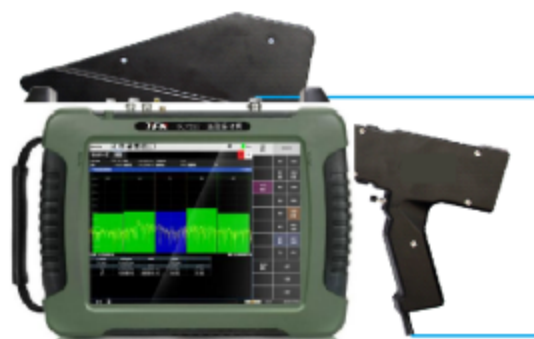

Figure 9.12 Connection diagram of handheld DF antenna and RMT series spectrometer
- Step 1. Connect the handheld DF antenna to the RMT series spectrometer RF input port and the USB port, as shown in Figure 9.12: